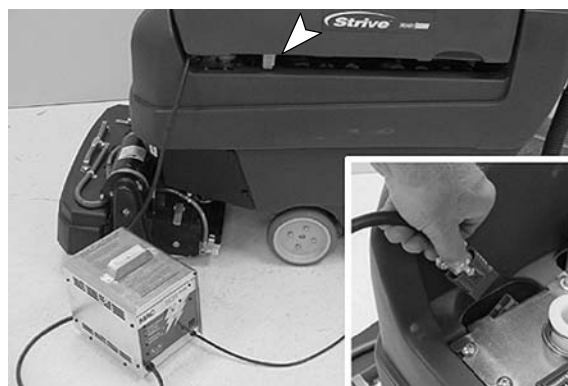

FIG. 20
5. Connect the charger's DC cord to the machine's battery receptacle located under the recovery tank (Figure 20). Rest the recovery tank on the support stand to promote ventilation during charging.